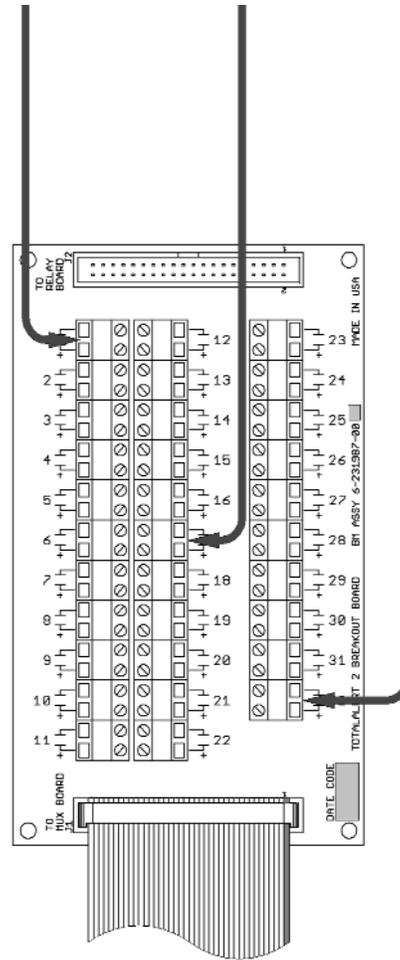

Figure 24: Breakout Board Wire Routing
2. Route each pair of signal wires as shown in Figure 24 to appropriate terminals on breakout board(s).